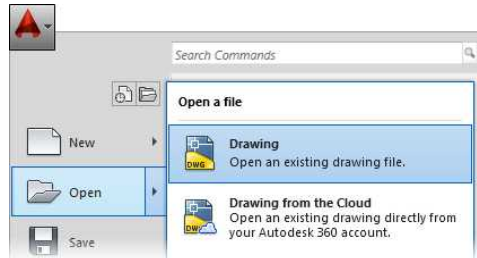

FIGURE 1.24: Opening an existing drawing from the Application menu
2. To open an existing file from the Application menu, choose Open ➤ Drawing, as shown in Figure 1.24.